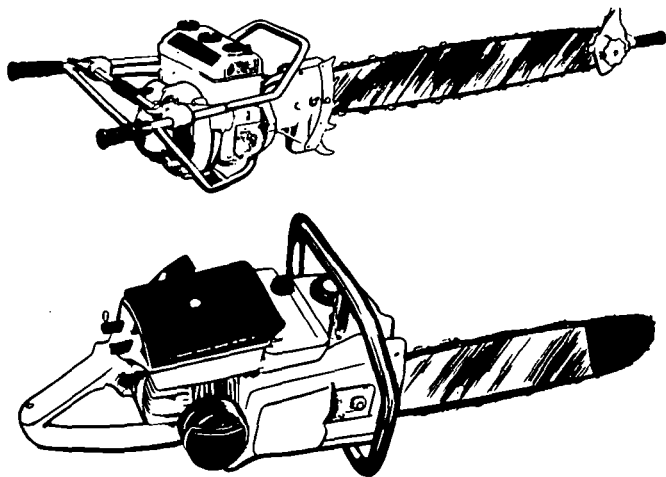

Figure 47. Gasoline powered chain saws.
a. *Use.* The gasoline portable chain saw (fig. 47) is a portable two-man or one-man tool for felling trees, sawing logs, and other similar operations for which two-man crosscut saws are used. The procedure for felling trees with a chain saw is much the same as when handtools are employed.
- (1) Do not start engine with clutch engaged.
- (2) Do not operate engine in a closed room.
- (3) Do not transport saw from tree to tree with chain running.